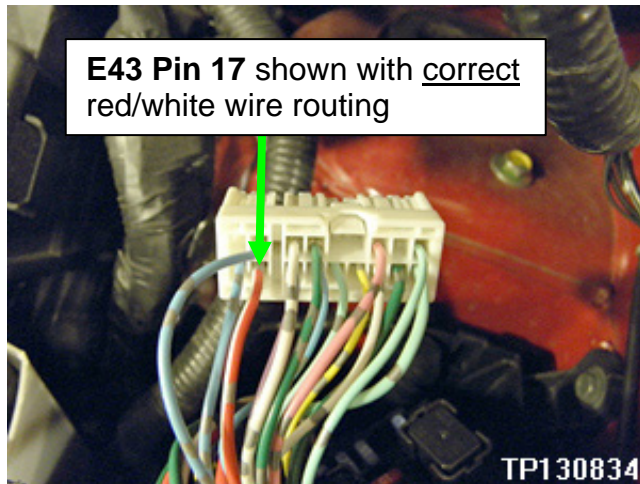

Figure 5
9. Install the red/white wire into the marked position on connector E43 (see Figure 5).